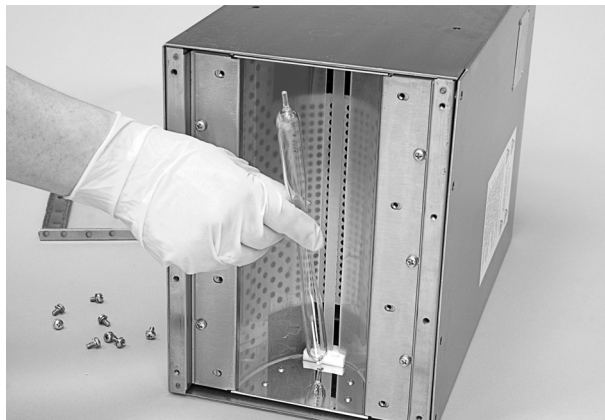

Figure 6-4 Bulb Removal and Replacement.
4. See Figure 6-4. The bulb is held in place by springs inside the retaining holes at each end of the lamp. Grasp both ends of the bulb and push one end into its retaining hole until the other end comes free. Carefully tilt the bulb to the side just enough to remove the retained end from the hole. Tilting the bulb too much could break off the tip of the bulb.